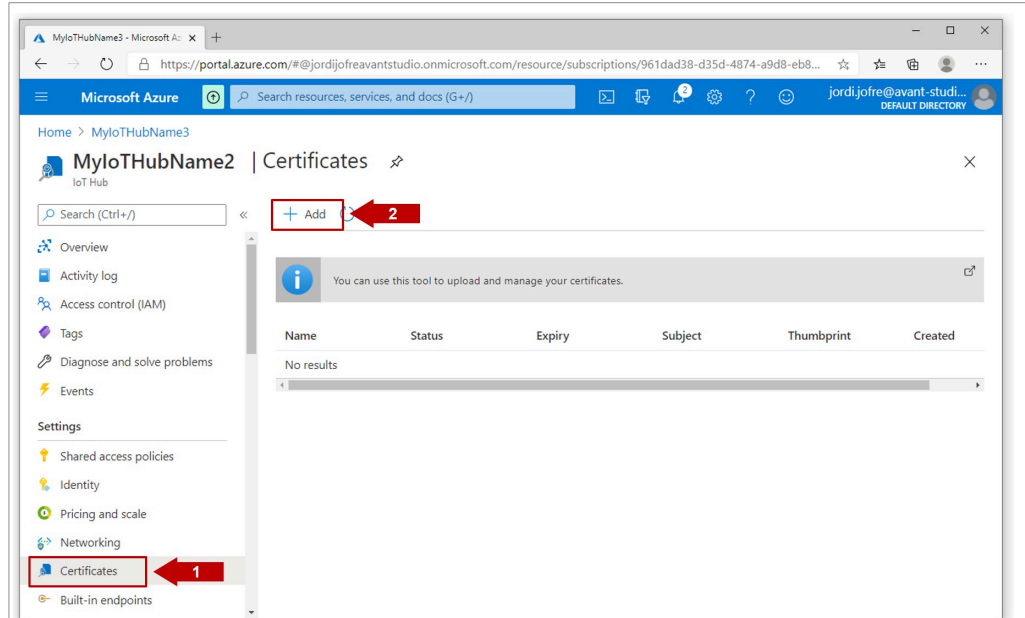

Figure 52. Upload a root CA certificate
1. In your Azure IoT Hub resource, click in **Certificates** menu (1) and then click **Add** (2) as shown in Figure 52: